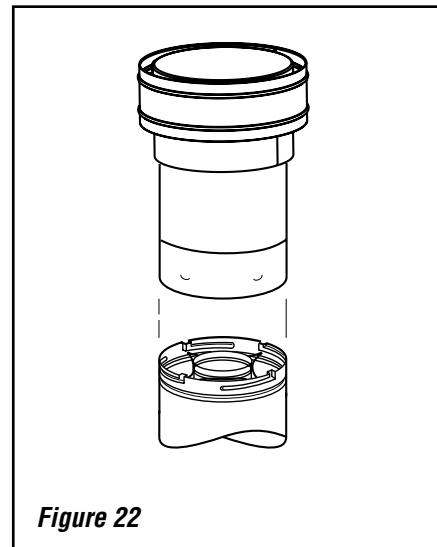

Figure 22
K. Install the vertical termination—The final step involves installation of the Vertical Termination. Extend the vent sections to the height as shown in the "Vertical vent termination section" on **Page 8**. The 8DVLVT Vertical Termination (**Figure 22**) can be installed in the exact same fashion as any other 8" DV Lock section. Align the termination over the end of the previously installed section, adjusting the radial alignment until the entry slots on the last vent section engage into the indents on the termination. Push the termination down until it fully engages, then twist the termination clockwise running the dimples down and along the incline channels until they seat at the end of the channels.